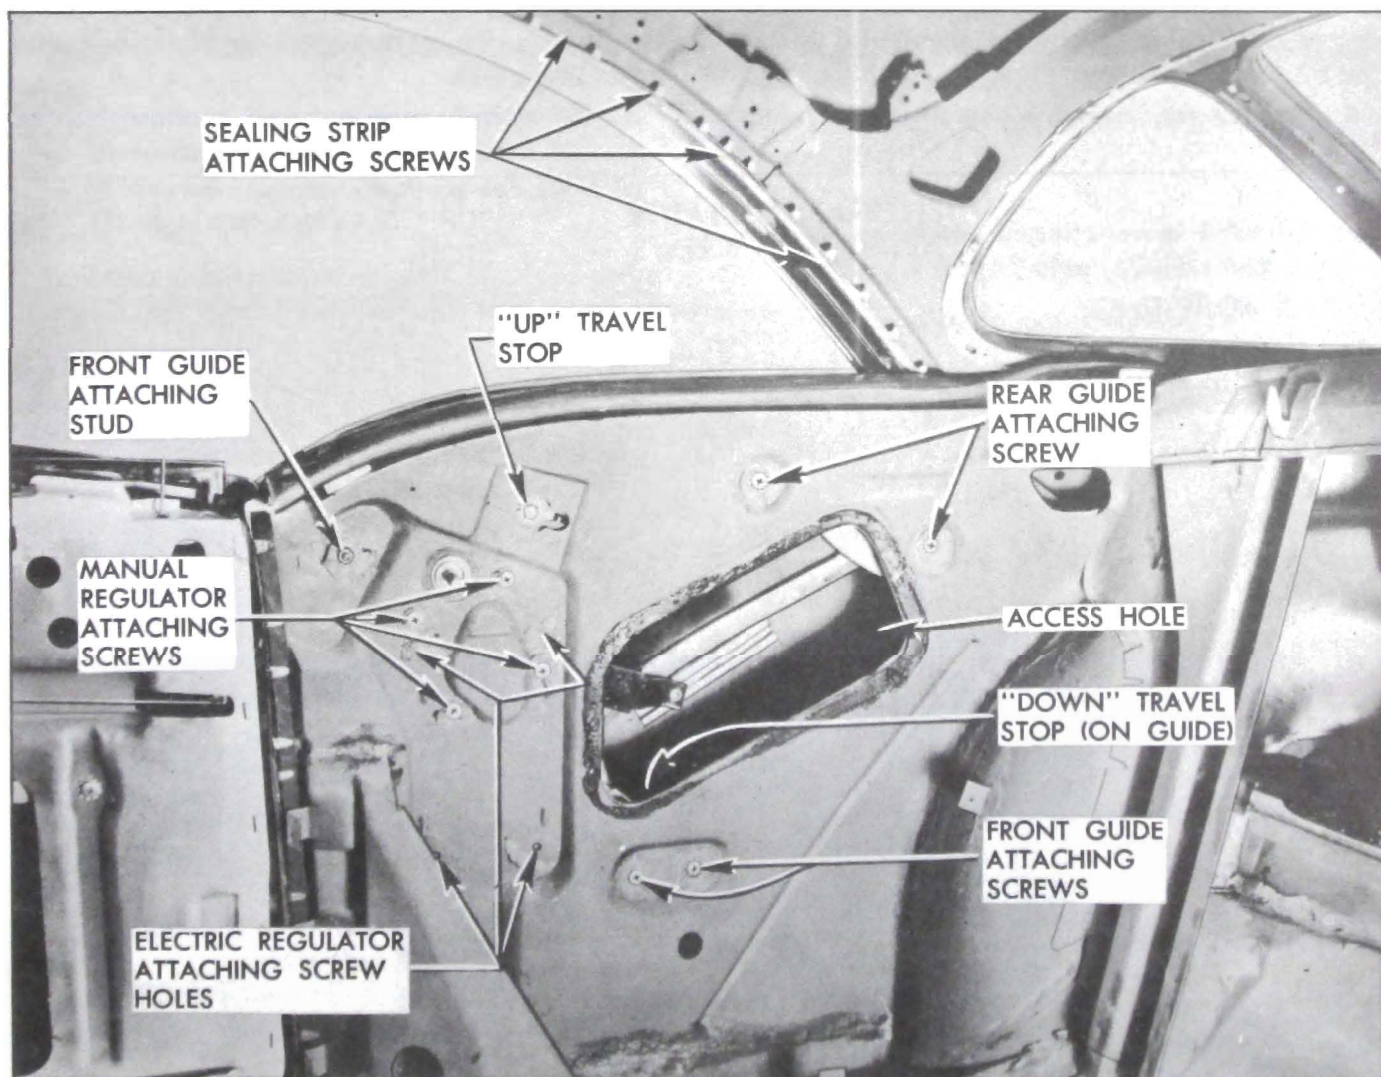

Figure 13-71—Rear Quarter Window Installation
7. To install, reverse removal procedure. See Figure 13-71.
5. To install, reverse removal procedure. See Figure 13-71.
3. To install, reverse removal procedure. See Figure 13-71.
4. To install, reverse removal procedure. See Figure 13-71.
The rear quarter window sealing strip attaching holes are over-sized to permit "in and out" and "fore and aft" adjustment. To adjust, loosen attaching screws and adjust as required; then tighten screws. See Figure 13-71.